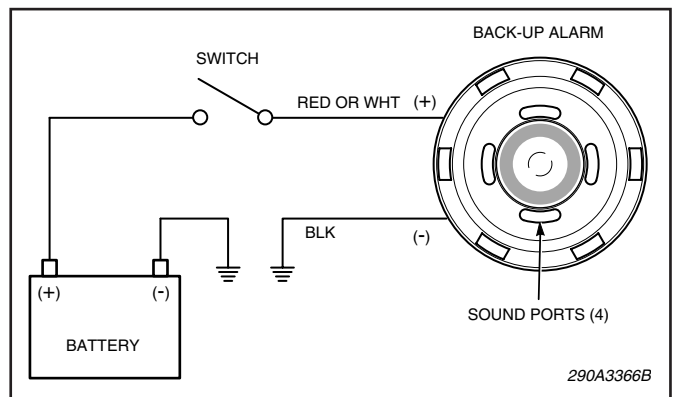

Figure 3.
1. See figure 3. Connect the red (or white) wire to the vehicle’s backup light circuit, or to an independent actuating switch.